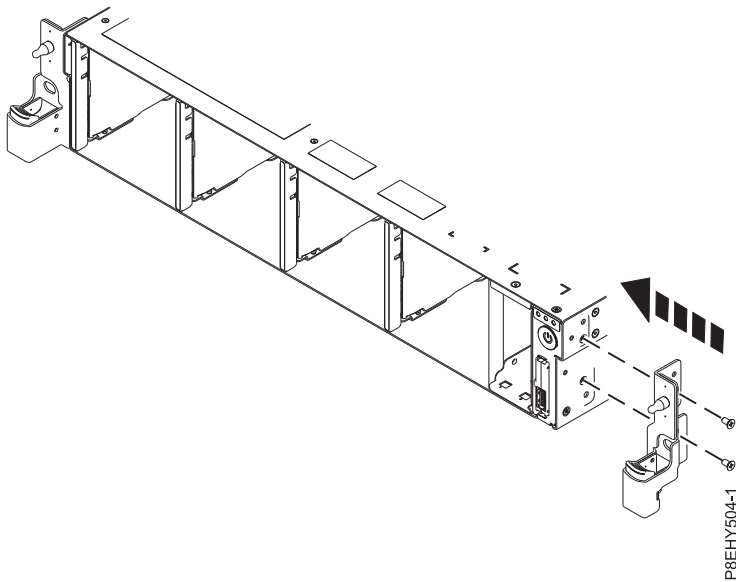

Figure 28. Replacing the rack installation support
7. Replace the rack installation support on the side of the system. See Figure 28.